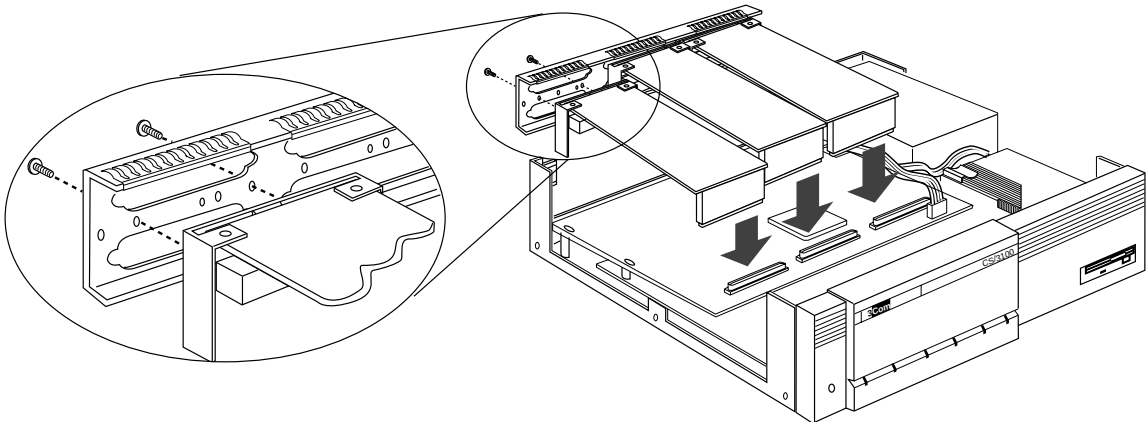

Figure 2-2 Installing 16-Port Asynchronous Module
- 4 Fasten each 16-port asynchronous module to the upper portion of the back panel, as shown in Figure 2-2.